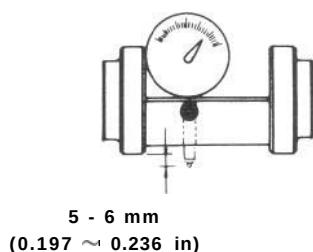

Fig. 16-21-1
- 1 Set dial indicator on dummy, letting the indicator spindle protrude 5 to 6 mm from the bottom of dummy as shown in Fig. 16-21-1.